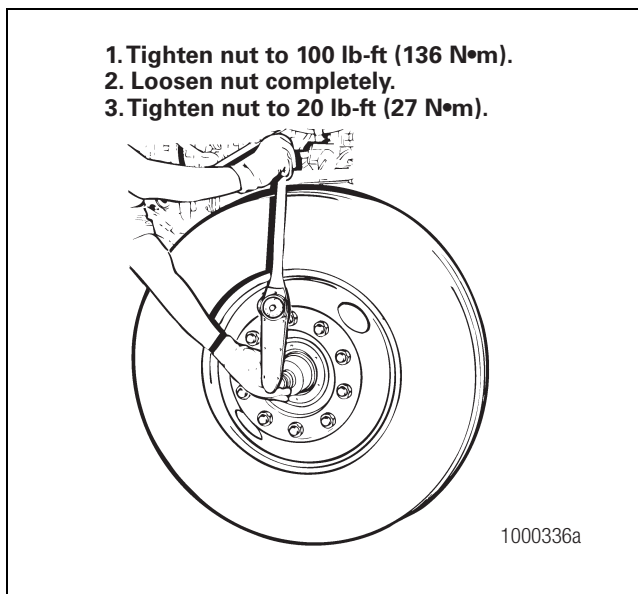

Figure 7.3
8. Use a torque wrench to tighten the adjusting nut to 100 lb-ft (136 N•m) while rotating the tire in both directions. Figure 7.3. **ⓘ**
9. Loosen the nut completely. Tighten the nut to 20 lb-ft (27 N•m) while rotating the tire. Figure 7.3. **ⓘ**